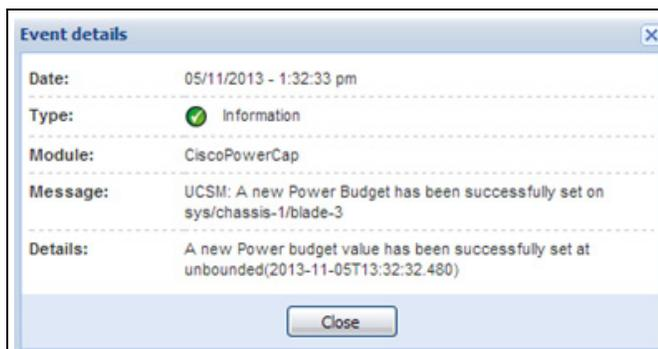

Figure 154. New Power Budget Successful
- A new power budget has been successfully set by the server (see Figure 154).